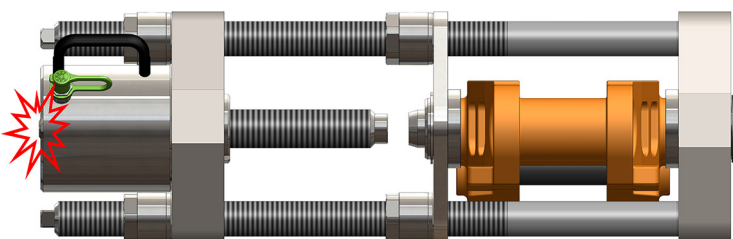
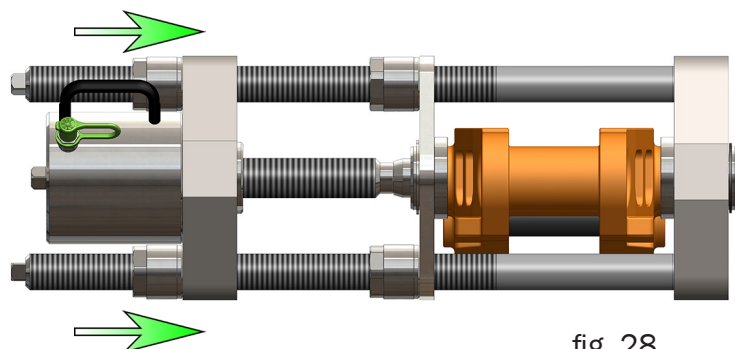

fig. 27
fig. 28
**NOTE!** Do not screw in the center spindle longer than it is edge-to-edge with the cylinder, fig. 27. If the center spindle does not reach the point, move the cylinder with yoke, fig. 28 and lock in place with the nuts.